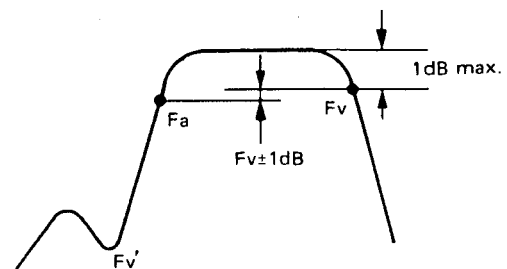

Fig. 7
4. Adjust L403 and L406 for maximum gain and for the waveform shown in Fig. 7.